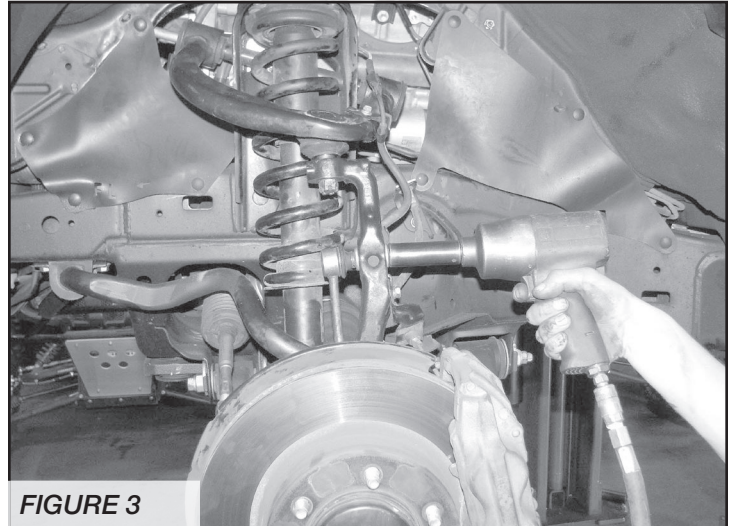

FIGURE 3
5. Remove the sway bar end links from the factory steering knuckles. Leave the links connected to the sway bar. Then remove the bar from the truck. Save the bar and the end links with all hardware. **SEE FIGURE 3**